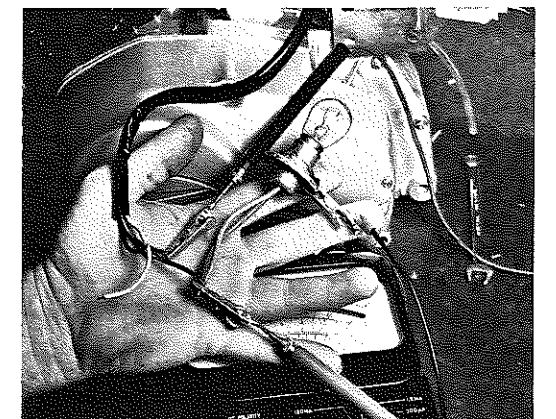

Fig. 20 Bulb/socket rig for 25-watt circuit load.
- 1) Disconnect yellow, green and blue lighting cord harness wires at nearest juncture point from engine. 2) Rig an old taillight bulb/socket combination (Fig. 20) so that both filaments are tied to a common lead (for this test, use a 5/20 watt stop/taillight bulb. This serves to place a 25-watt load on lighting coil, duplicating normal operating loads). 3) Connect test socket "common" lead to green lighting cord harness wire. 4) Use jumper wire to establish ground connection between bulb socket and engine case. 5) Shield test socket leads and wiring harness leads to prevent accidental grounding during test. 6) Check condition of bulb filaments before and after test. *They must be in working order.* 7) Connect one lead from AC voltmeter to test socket/green lead connection. Connect the remaining voltmeter lead to lighting cord blue wire. 8) If electric tachometer is used, connect tachometer to lighting cord black wire. Start engine and read output over prescribed engine speeds. 9) Switch test socket "common" lead onto lighting cord yellow wire and read output again. Factory specifications call for: